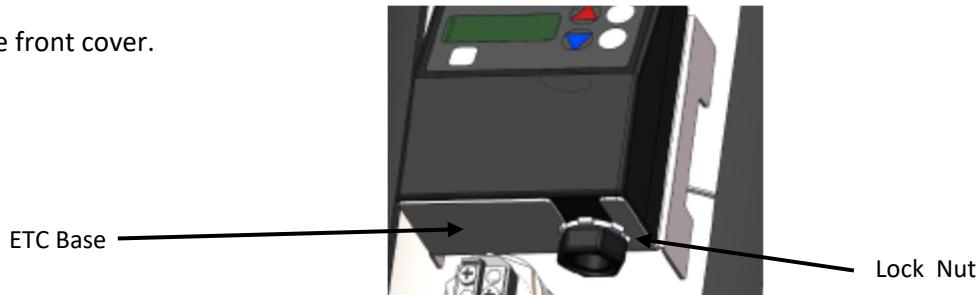

Figure 15- Electronic Temperature Controller
4. Loosen lock nut from the base of the ETC and slide the controller off the base, See Figure 15 below.